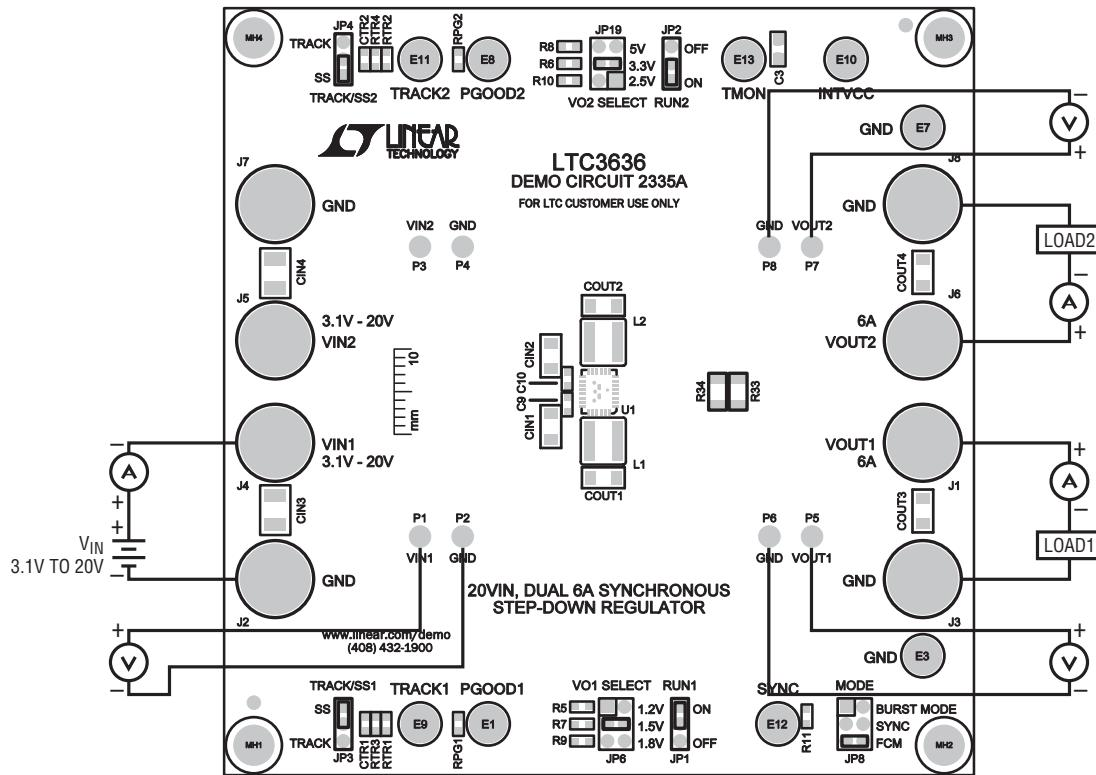

Figure 1. Proper Measurement Equipment Setup
Demonstration circuit 2335A is easy to set up to evaluate the performance of the LTC3636. Refer to Figure 1 for the proper measurement equipment setup and follow the procedure below.
2. Connect the output loads between V_{OUT1} , V_{OUT2} and GND (Initial load: no load). Refer to Figure 1 for proper setup.